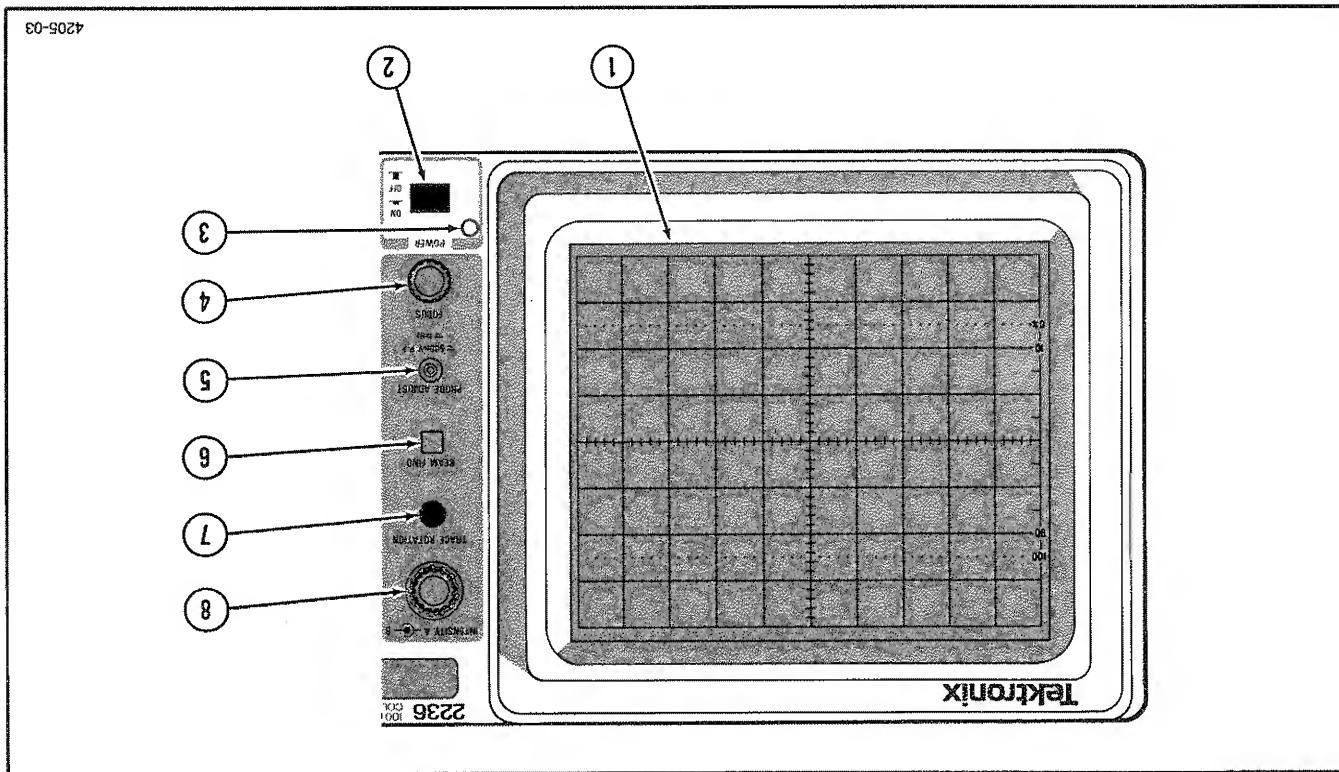

Fig. 2-3. Power and display controls and indicators and PROBE ADJUST output.
Refer to Figure 2-3 for location of items 1 through 8.